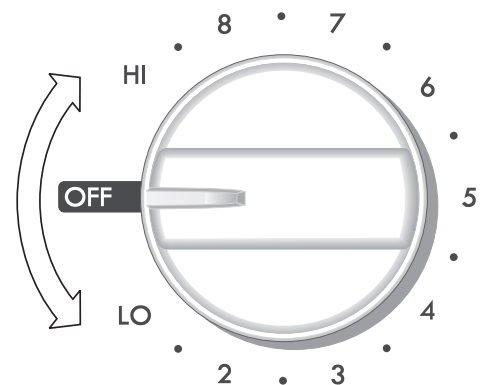
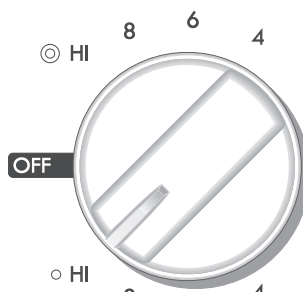

Figure 3
Figure 2
2. Push in and turn the surface control knob in either direction to the desired setting (Figure 2). Turn the knob to adjust the setting if desired. Start most cooking operations on a higher setting and then turn to a lower setting to finish cooking. Each surface element provides a constant amount of heat at each setting. A glowing red surface heating area extending beyond the bottom edge of the cookware indicates the cookware is **too small** for the surface heating area.
The cooktop is equipped with a dual radiant surface element located at the left front (See Figure 1) position. Symbols on the control knob area are used to indicate which coil of the dual radiant element will heat. The ● indicates that only the inner coil will heat (Figure 2). The ⊙ indicates that both inner and outer coils will heat (Figure 3). You may switch between settings at any time during cooking.
2. Push in and turn the control knob counterclockwise (See Figure 2) for smaller cookware or clockwise (See Figure 3) for larger cookware.